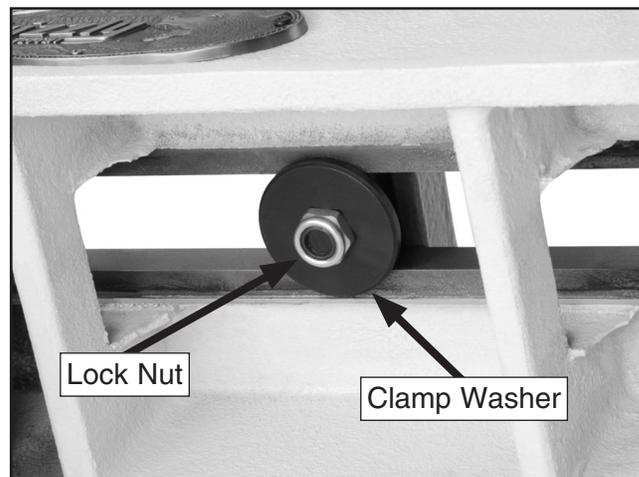

Figure 32. Lock nut and clamp washer location (viewed from beneath).
4. Loosen and remove the lock nut and clamp washer from beneath the tool rest base (**Figure 32**).